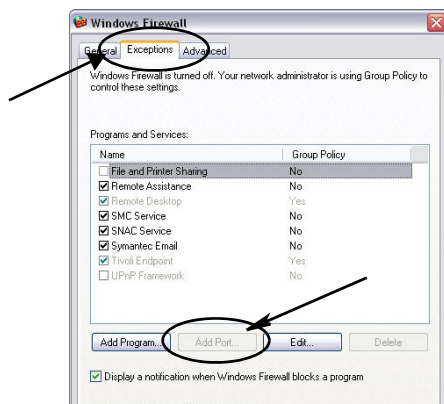

FIG. 25
2. If not already selected, click “Exceptions Tab to display contents (FIG. 25).
3. Click “Add Port” button (FIG. 25).